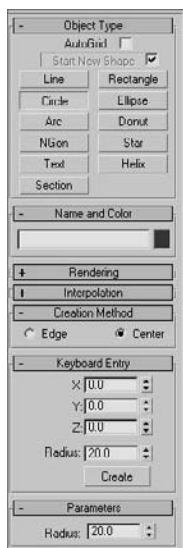

Figure 2.22
3. Let's start with a circle. Click the Circle button. Your cursor will turn to a cross as it did when you created the cylinder. This time, expand the Keyboard Entry rollout. Enter a value of 20 for the Radius under the Keyboard Entry rollout in the Create panel, as you can see in Figure 2.22. Click the Create button. A circle with radius 20 should appear at the origin. This is a way to make objects with precise dimensions, as opposed to clicking and dragging as you did to create the cylinder.